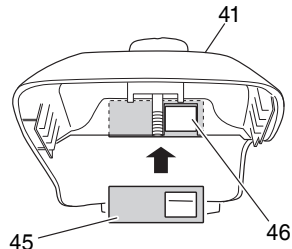

Fig. 40
Icing protection system (Fig. 40, 41)
1. When you need icing system work, remove air filter cover (41). Pull out the shutter (45) from inside the air filter cover and reinstall it in winter time position by turning half-way. (Fig. 40) This will allow heated air to flow from cylinder side to carburetor cabin through the opening (46).